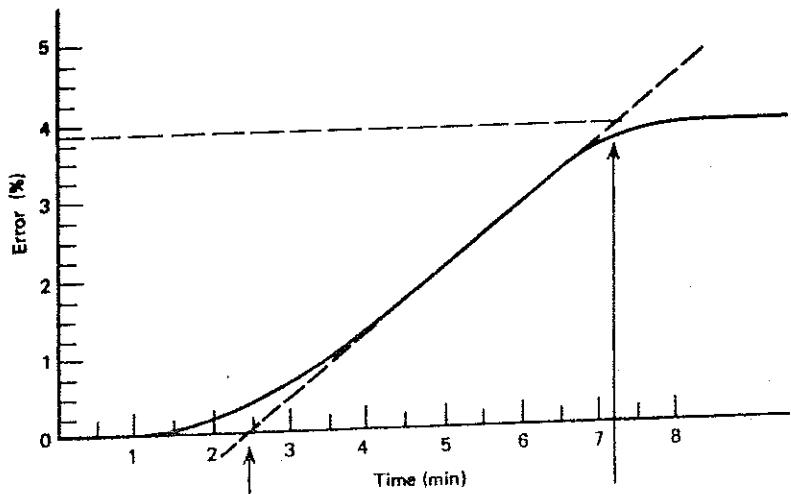

FIG1. PROCESS REACTION GRAPH
1. A transient disturbances test is run on a process loop. The results of 9% controlling variable change gives a process reaction graph as shown in Fig 1. Find the settings for three mode actions.